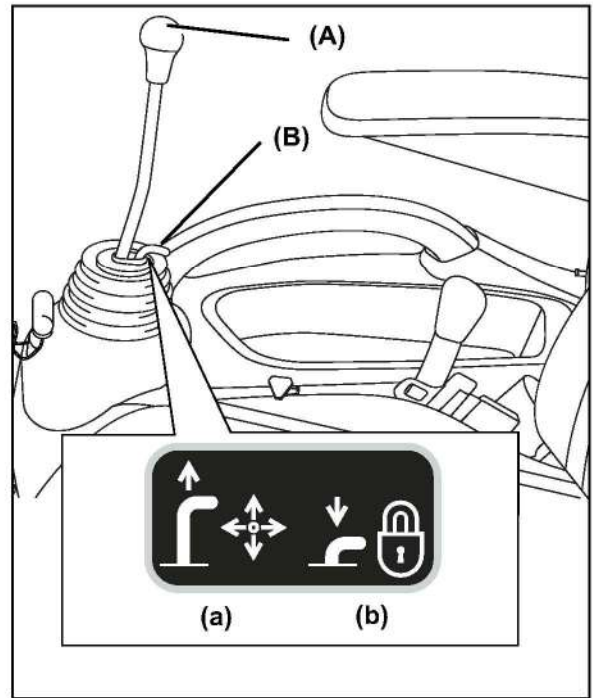

Fig 5-23
### (6) Implement control lock lever (Fig 5-23)